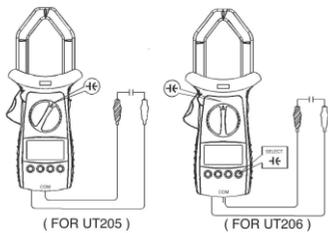

FIG 8
- Connect the test leads to the proper terminals as said above to avoid error display. The LCD will display **OL** indicating diode being tested is open or polarity is reversed. The unit of diode is Volt (V), displaying the forward voltage drop reading.
F. Measuring Capacitance (See Figure 8)